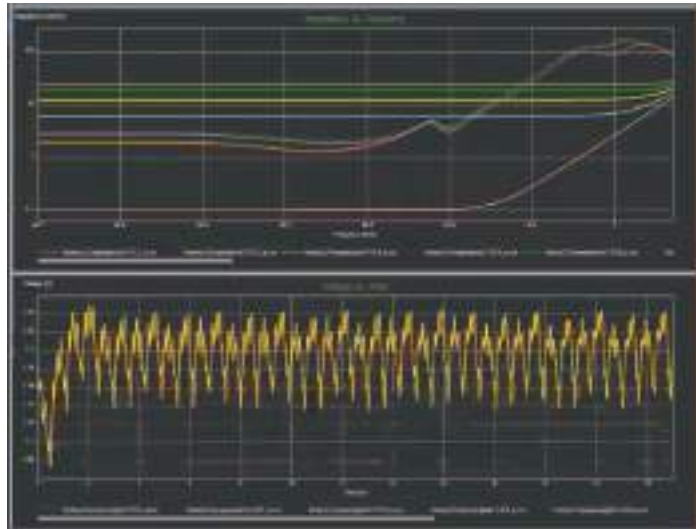

Figure 31: Simulation of all eight nodes
- ▶ Run a simulation to look at all eight nodes. Since they are all identical and all the impedances of the network were closely matched, most of the ripples are overlapping each other (Figure 31).